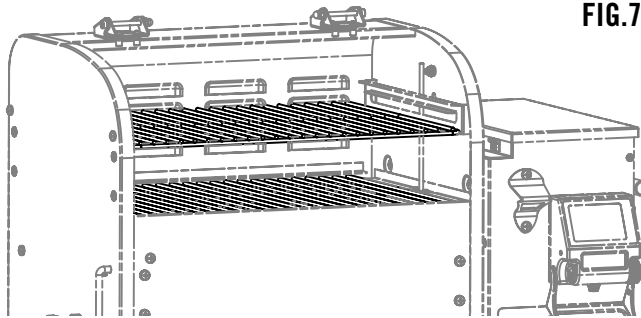

FIG. 7
1. Install the cooking grate as shown in Fig 7.